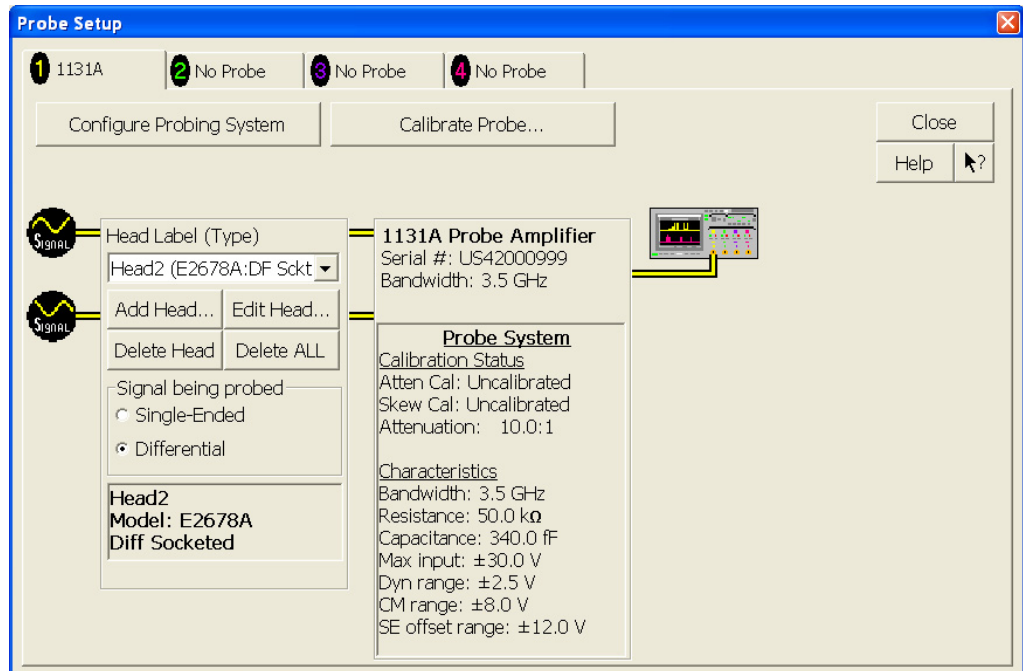

Figure 61 Calibrating a Probe.
- 3 Referring to Figure 61 below, perform the following steps: